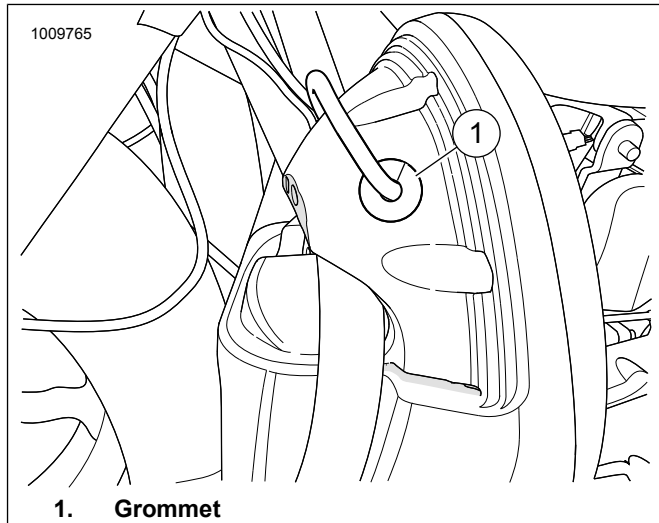

Figure 16. Lower Fairing Shown
13. See Figure 16. Remove speaker wire grommet (1) from lower fairing.